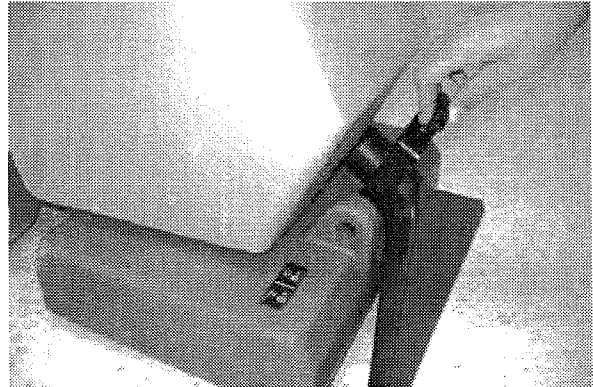

FIG. 9
2. Adjust brush to proper height. Turn height adjustment knob until bristles slightly touch carpet, then turn knob another half turn. Turn knob clockwise to raise and counterclockwise to lower (Figure 9).